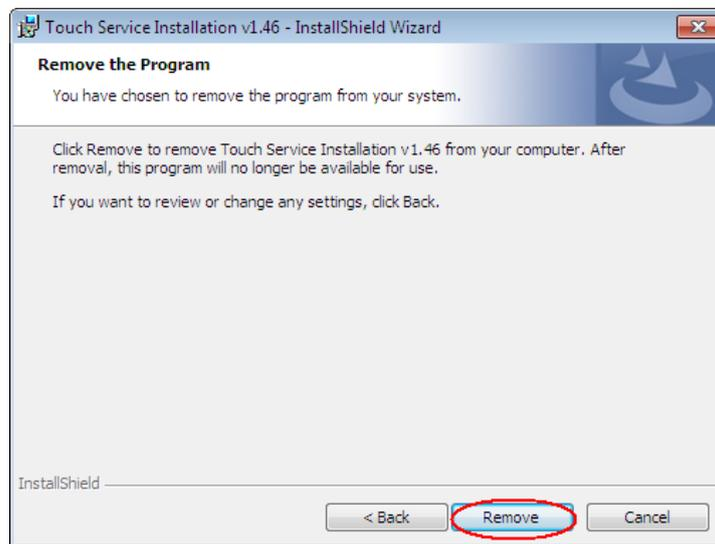
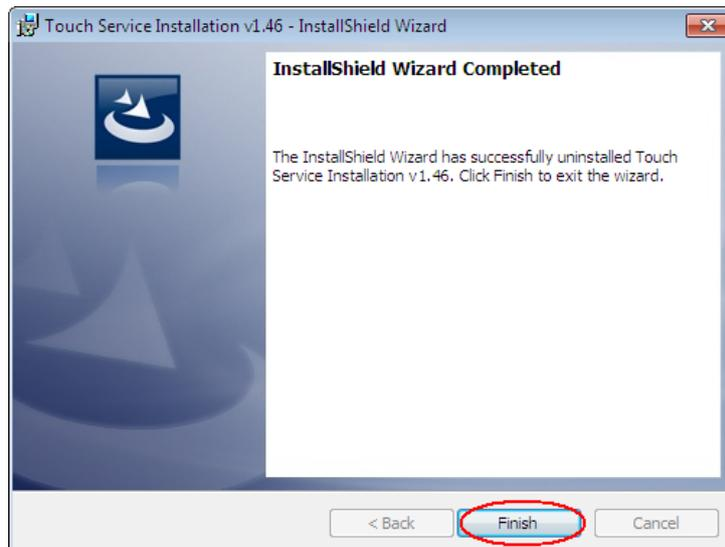

Figure 3-10
Figure 3-11
c) Click "Remove" (Figure 3-10) → "Finish" (Figure 3-11).